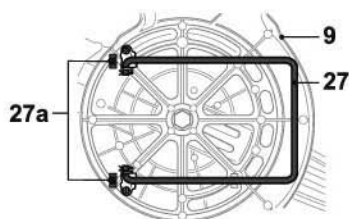

Fig. 1
1. Fold out the base extension (27) and ensure it is properly fixed in its clamps (27a) (Fig. 1, 2).